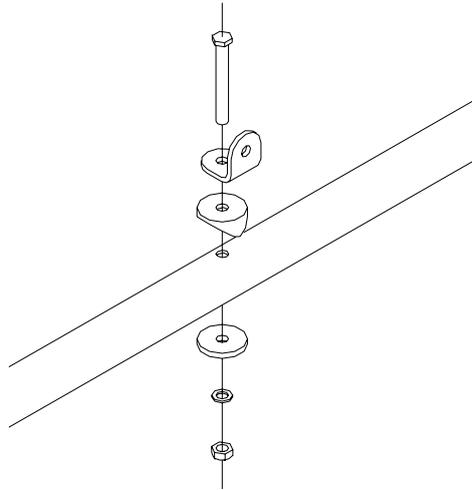
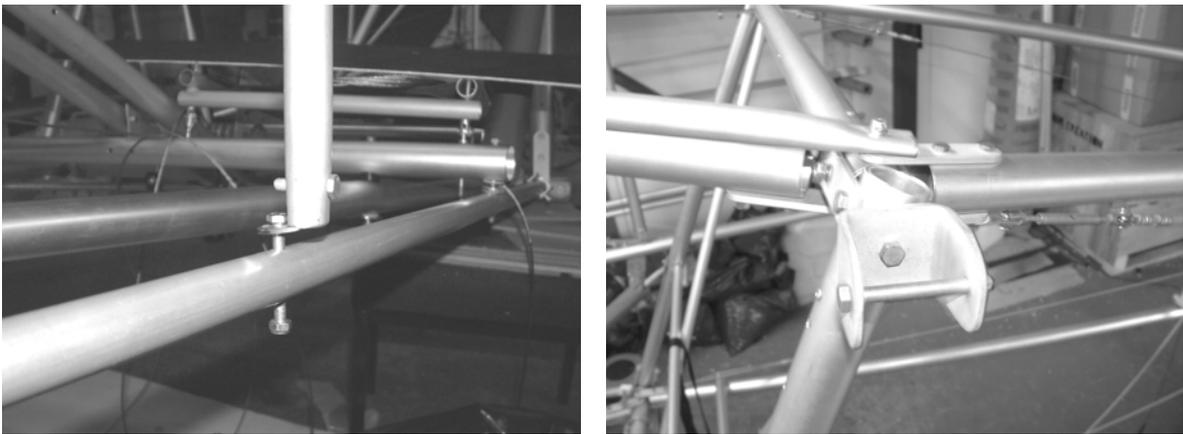

Figure 176; bottom of windscreen side tubes tu34.
Figure 177; bottom and rear ends of windscreen support frame.
- Attach the bottom of the cabin uprights **tu34** to the middle of the fuselage lower side members **tu16** using an L-bracket slid inside the slightly flattened bottom end of the tube, with the tube orientated towards the outside of the aircraft, Figure 176 and Figure 177.
- c) At the rear of the **tu34** support frame, the tubes are flattened to fit onto the bolt end protruding upwards from the fuselage at the trailing edge attachments, Figure 177.